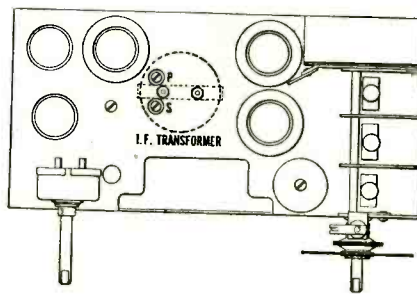

Fig. 2. Chassis layout, showing location of trimmers.
(1) Use a modulated oscillator giving a signal at 175 kc and 1400 kc. An output meter and non-metallic screwdriver are also necessary. Fig. 2 shows the location of the i-f condensers.
(2) The i-f line-up condensers should be adjusted first. This is done by placing the oscillator in operation at 175 kc, coupling its output between the control grid of the mixer and ground, connecting the output meter across the cone coil of the speaker and adjusting the two i-f line-up condensers until maximum output is obtained.
(3) After the i-f circuits are aligned, the r-f and oscillator circuits are adjusted at 1400 kc. Prior to making the adjustment, however, the dial should be checked. This is done by making sure the dial indicator reads 530 (indicator in center position) when the tuning condenser rotor plates are fully meshed with the stator plates. The adjustments are then made in a manner similar to that of the i-f except that the oscillator is set at 1400 kc, its output is connected from antenna to ground of the receiver, and the dial is set at 140. The adjustment is made with the trimming condensers located on top of the gang condenser and each trimmer is adjusted for maximum output.